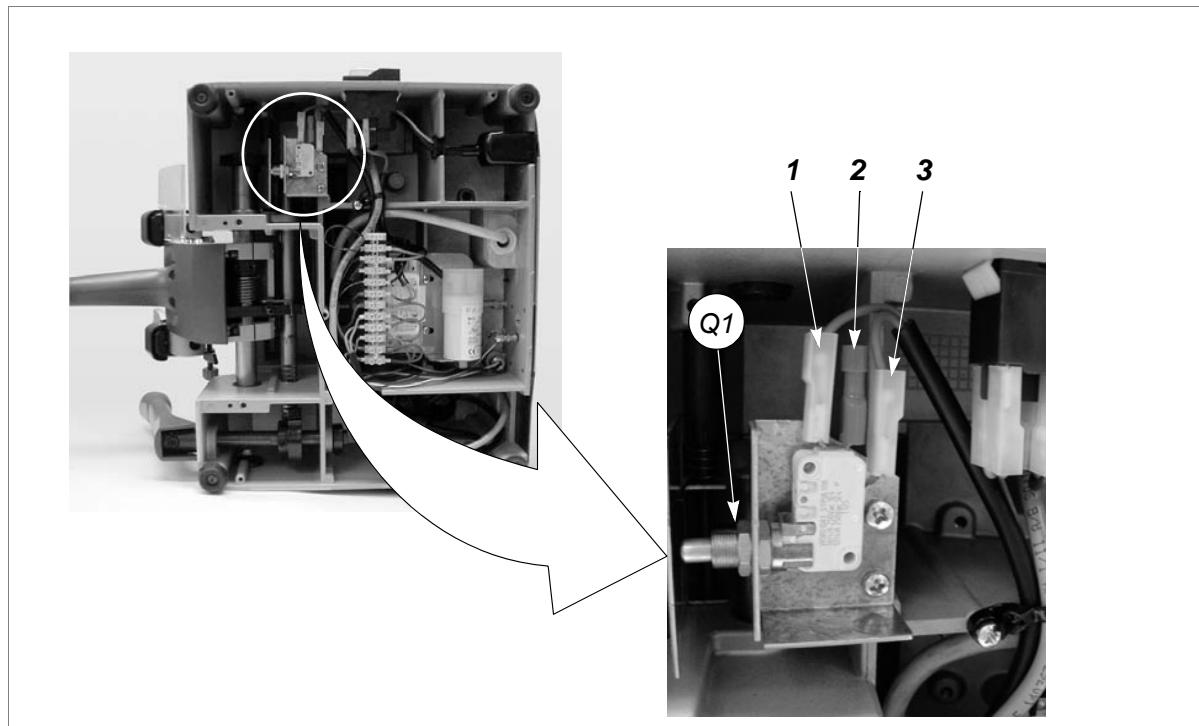

Fig. 36
- 4) Loosen the nut (Q1) and remove the microswitch (fig.36).